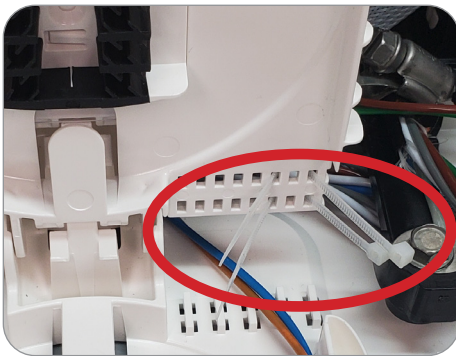

Figure 79
5. Insert two zip ties where the tubes will enter the splice tray (Figure 79).